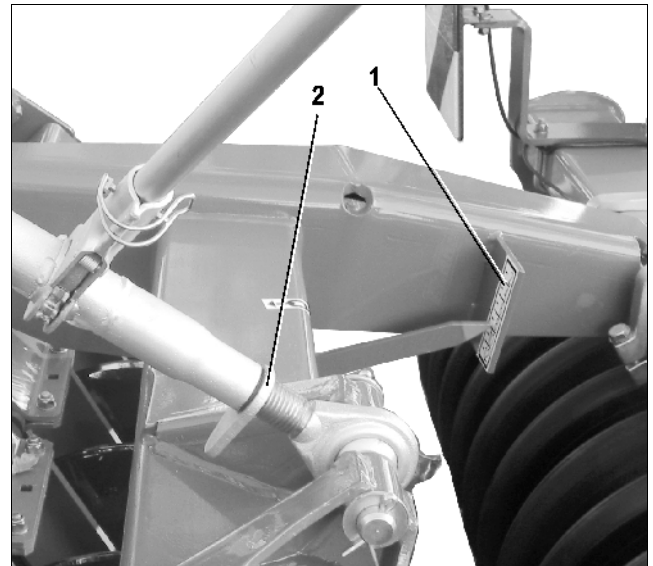

Fig. 16
- Check the adjusted working depth with the aid of the scale (Fig. 16/1) on the carrying arms of the wedge ring roller.
- Lock position of the setting spindle by using the locking lever (Fig. 16/2).